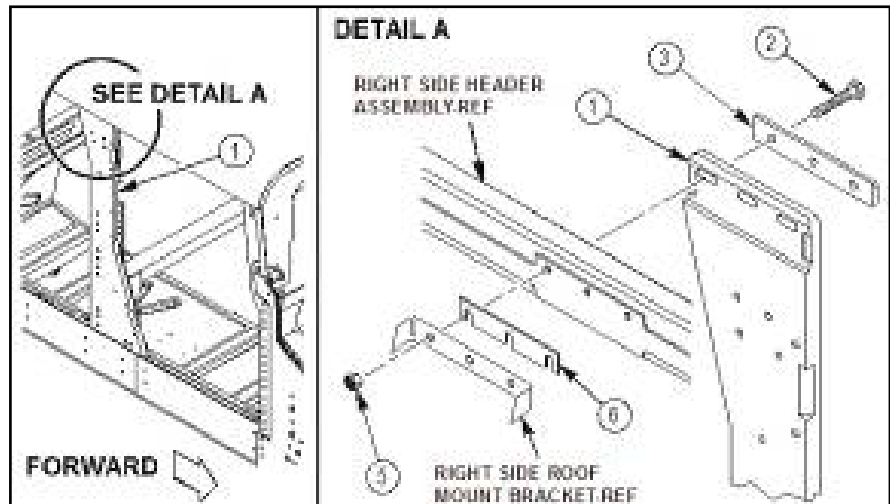
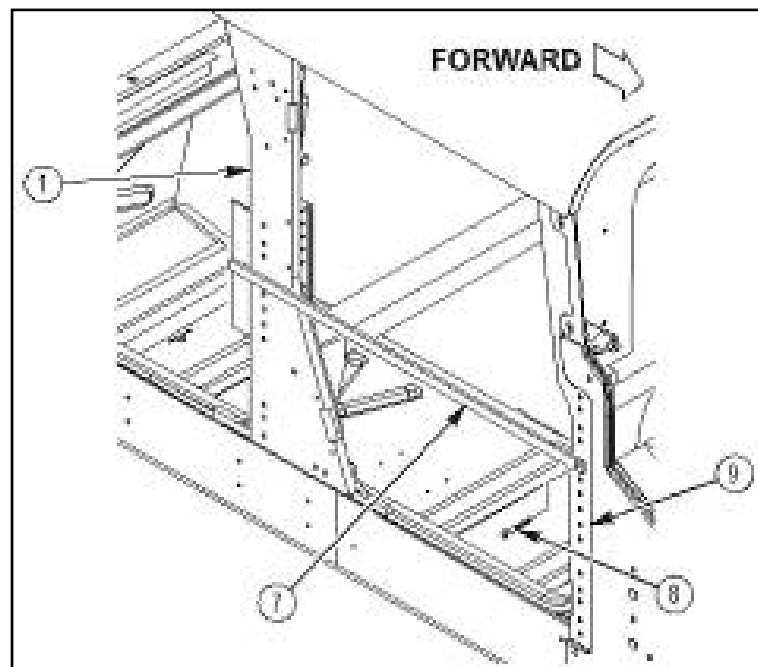
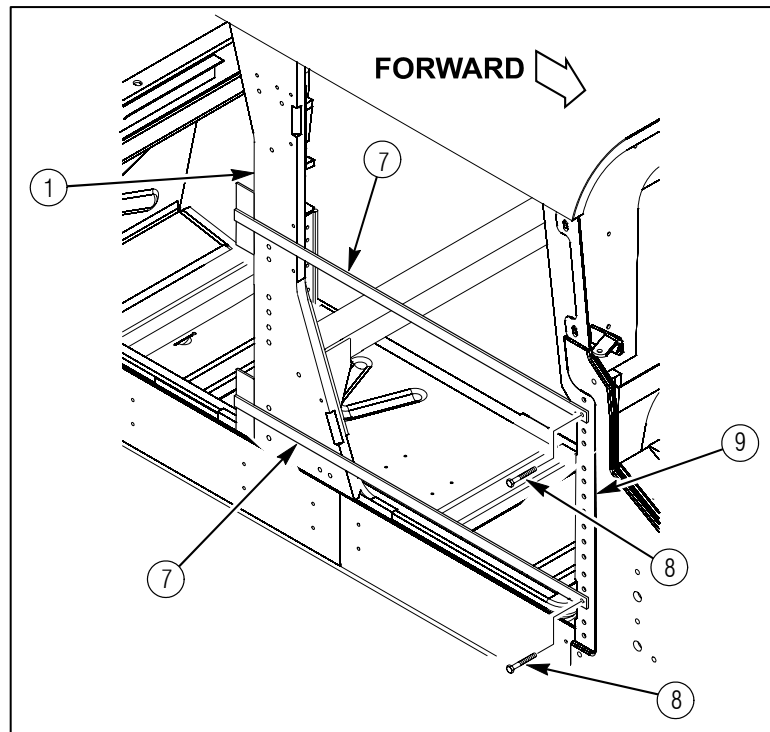

Figure 18a.
Figure 18b.
Figure 18c.
- 18a. Install existing shims (6) as required, and hand tighten locknuts (5).
10. Install one M00650BAS001-01M1 B-pillar spacer gage (7) on A-pillar (9) with existing front door mounting capscrew (8) (.375-16 X 3.50) as shown in figure 18b or two M00631BAS001-01M1 B-pillar spacer gages (7) on A-pillar (9) with two existing front door mounting capscrews (8) (.375-16 X 3.50) as shown in figure 18c. Ensure back edge of left B-pillar plate (1) is tight against B-pillar spacer gages (7), and tighten three capscrews (item 2 figure 18a) to 21 lb-ft (28.5 N·m). Remove capscrews (8) and B-pillar spacer gages (7).